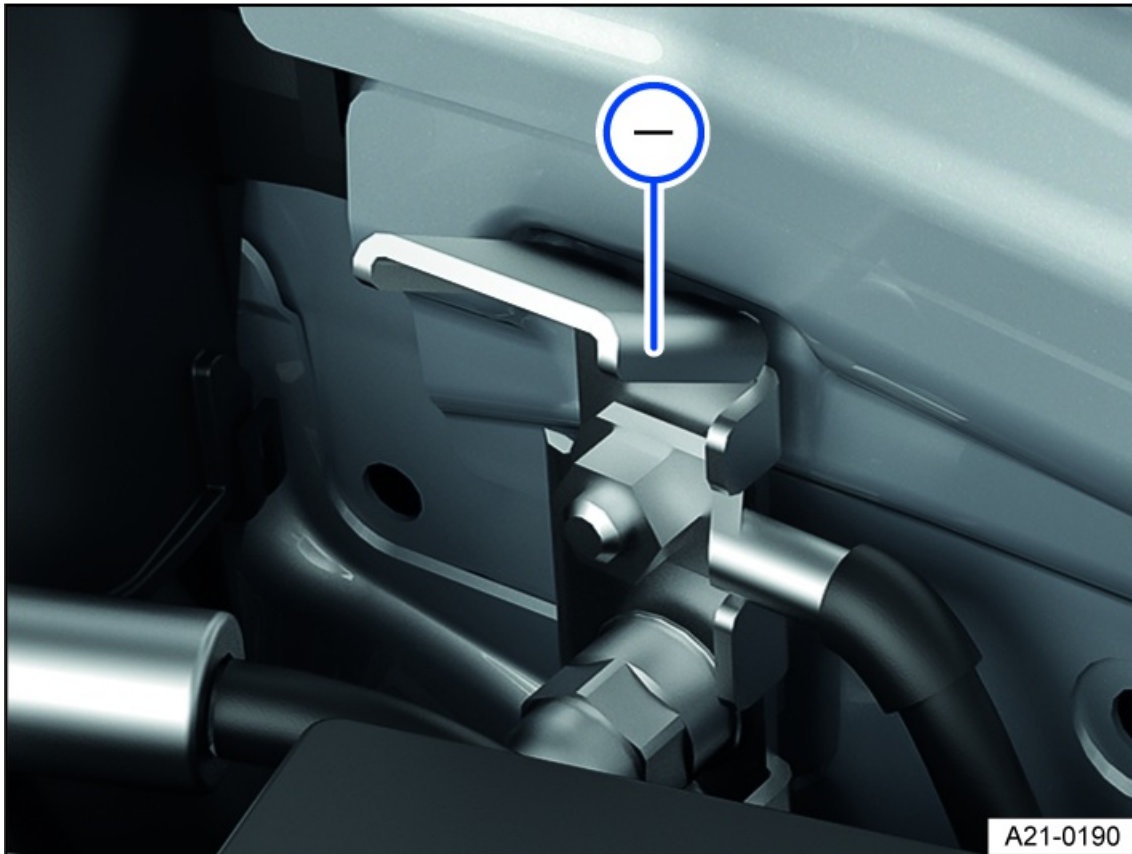
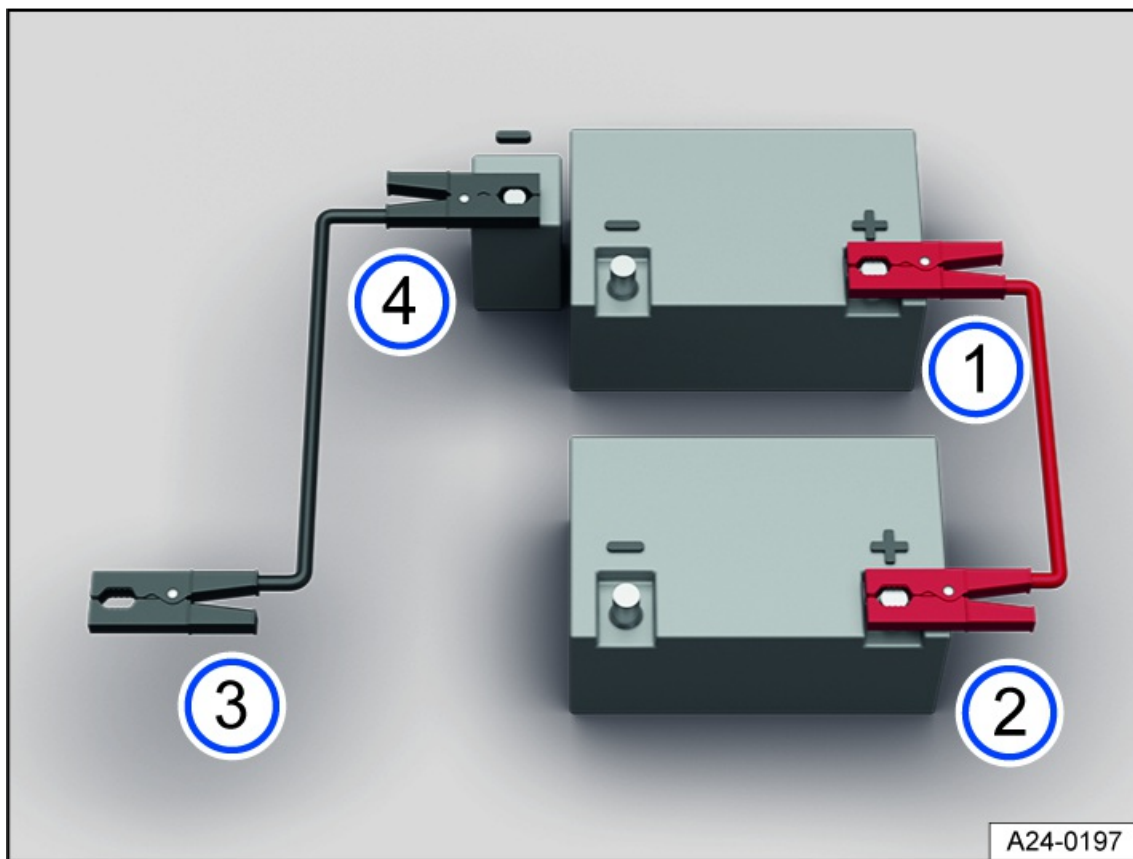

Fig. 150 In the hood space: Negative terminal jump-start point.
Fig. 151 Diagram for connecting the jumper cables.
The jumper cable must be connected only in the order 1 – 2 – 3 – 4 *fig. 151*.
4. Connect the other end of the red jumper cable to the positive battery terminal (**+**) on the vehicle providing current *fig. 151* ②.
5. Connect one end of the black jumper cable to a negative terminal jump-start point **-** on the vehicle providing current *fig. 151* ③.
Or: if no negative terminal jump-start point **-** is available, connect to a large metal part that is bolted securely to the engine block or connect to the engine block itself *fig. 151* ③.
6. Connect the other end of the black jumper cable to the negative terminal jump-start point **-** on the vehicle receiving the jump-start *fig. 151* ④ *fig. 150*.